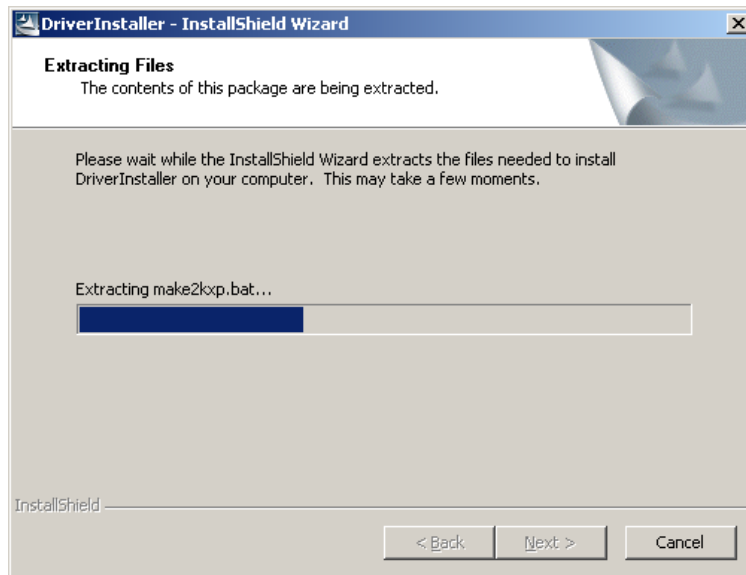

Figure 7-24: File Extraction Continues
Step 11: File extraction continues (**Figure 7-24**).